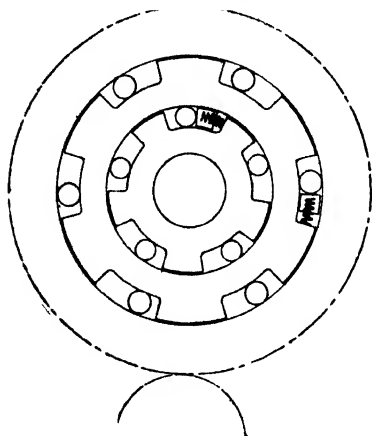

Fig. 168. North East Double Roller Over-Running Clutch (*Horseless Age*)
the driven member tends to run faster than the driver. Fig. 168 shows the double-roller over-running clutch employed on the North
*Roller Type.* The roller type is the most commonly used and, as the various forms in which it is made differ but little, a description of one will suffice to make clear the principle employed. It consists of an inner driving member and an outer driven member, connected by a number of rollers when the driving member is rotated in one direction and disconnected when it is rotated in the opposite direction, i.e., when the driven member tends to run faster than the driver. Fig. 168 shows the double-roller over-running clutch employed on the North East dynamotor. A double clutch is employed in this case to permit the dynamotor to be driven at one speed when operating as a dynamo and at another when starting the engine. Fig. 169, which shows the Leece-Neville starter on a Haynes six-cylinder motor, is an example of the use of a roller clutch and chain in place of the gear and pinion connection previously described.